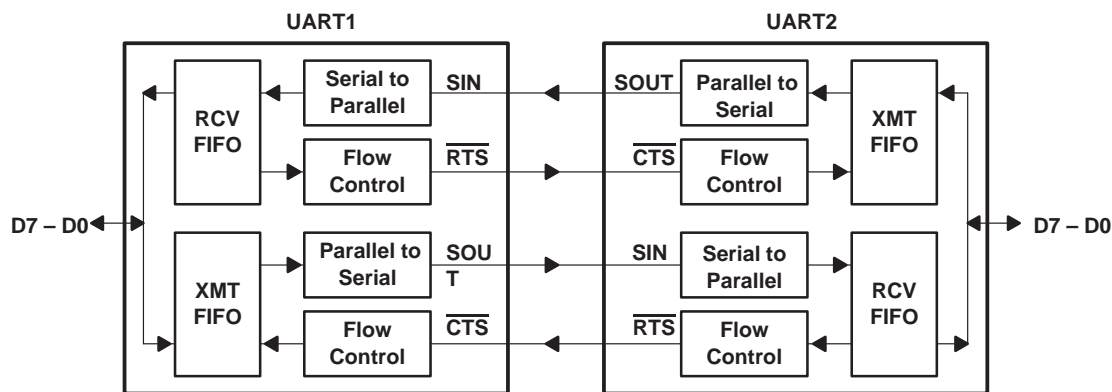

Figure 2–4. Example of Auto-flow Control (Auto- $\overline{\text{RTS}}$ and Auto- $\overline{\text{CTS}}$)
2.1.6.1 Auto-flow Control (See Figure 2–4)
Auto-flow control is composed of auto- $\overline{\text{CTS}}$ and auto- $\overline{\text{RTS}}$. With auto- $\overline{\text{CTS}}$, $\overline{\text{CTS}}$ must be low before the transmit FIFO register can emit data (see Figure 2–4). With auto- $\overline{\text{RTS}}$, $\overline{\text{RTS}}$ becomes high when the receiver is empty or the threshold has not been reached. When $\overline{\text{RTS}}$ is connected to the $\overline{\text{CTS}}$, data transmission does not occur unless the receiver FIFO register has empty space. Overrun errors are eliminated when UART1 and UART2 are TIR2000 or other autoflow control devices with enabled flow control. When UART1 and UART2 are not autoflow control devices with enabled flow control an overrun error occurs if the transmit data exceeds the data receive FIFO-read capacity.
2.1.6.2 Auto- $\overline{\text{RTS}}$ (See Figure 2–4)
2.1.6.3 Auto- $\overline{\text{CTS}}$ (See Figure 2–4)